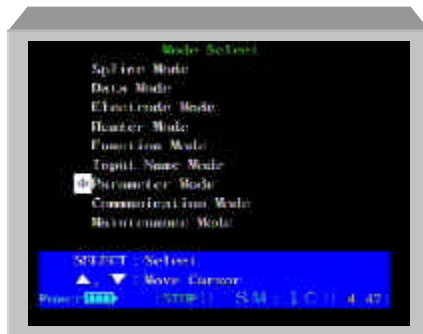

Figure 48. Entering Parameter Mode
1. From the MODE SELECT screen shown in Figure 48, choose PARAMETER MODE and press "SELECT".